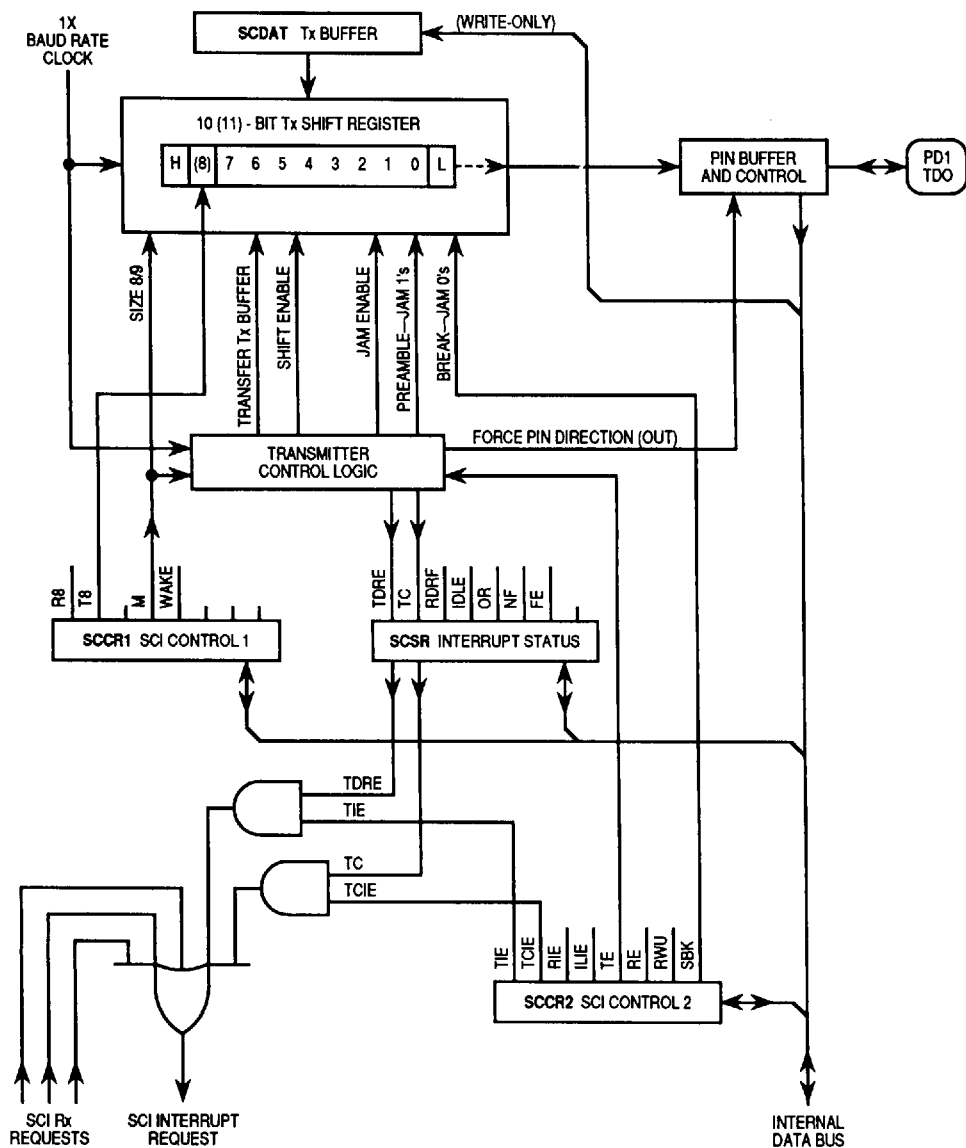

Figure 3-15. SCI Transmitter Block Diagram
The SCI transmitter block diagram is shown in Figure 3-15. The heart of the transmitter is the transmit serial shift register near the top of the figure. Usually, this shift register obtains its data from the write-only transmit buffer. Data is transferred into the transmit buffer when software writes to the SCI data register (SCDAT). Whenever data is transferred into the shifter from the transmit buffer, a zero is loaded into the LSB of the shifter to act as start bit, and a logic one is loaded into the last bit position to act as a stop bit. In the case of a preamble, the shifter is loaded with all ones, including the bit position usually holding the logic zero start bit. A preamble is loaded each time the transmit enable bit is written from zero to one. In the case of a send
The status flag and interrupt generation logic are shown in Figure 3-15. The transmit data register empty (TDRE) and transmit complete (TC) status flags in the SCI status register (SCSR) are automatically set by the transmitter logic. These two bits can be read at any time by software. The transmit interrupt enable (TIE) and transmit complete interrupt enable (TCIE) control bits enable the TDRE and TC flags, respectively, to generate SCI interrupt requests.